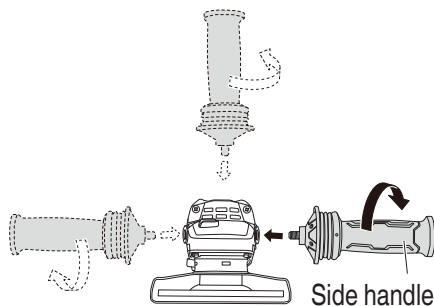

Fig. 13
1. Hold the grinder firmly by its housing and side handle (Fig. 13).